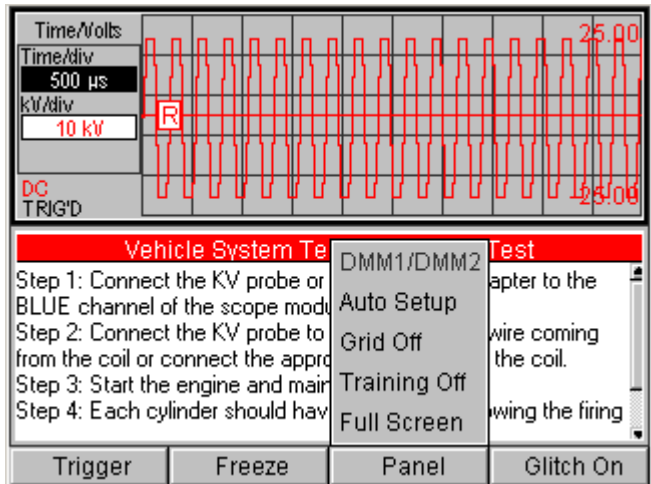
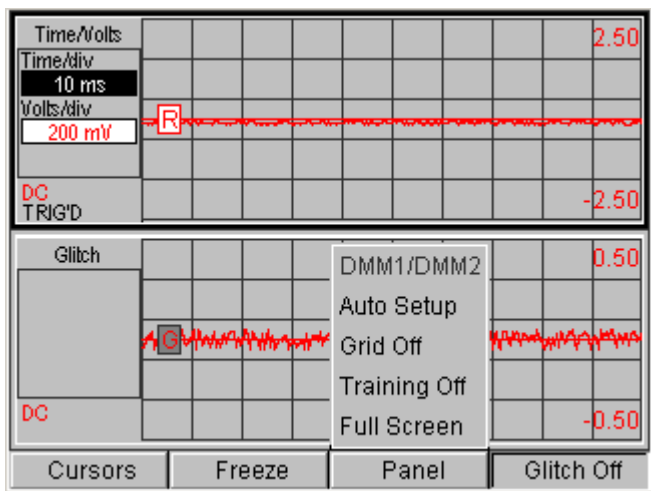
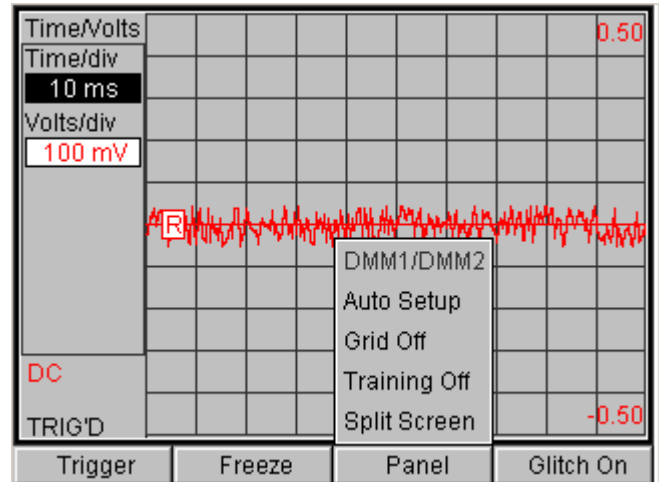

Figure 12.7: Vehicle System Tests Screen - Function Keys with Waveform in Top Panel Selected
Figure 12.8: Vehicle System Tests Screen - Function Keys with Glitch On
Figure 12.9: Vehicle System Tests Screen - Function Keys with Waveform Selected and Displayed as Full Screen
The second group of function keys [**Trigger/Cursors/Time Volts, Freeze, Panel, Glitch On/Off**] appears when the **top panel is selected and it contains the waveform display**, as shown in Figure 12.7, or when the top panel is selected and the Glitch panel is displayed in the bottom half of the screen, as shown in Figure 12.8. They also appear when you display a full screen waveform by using the Panel function key Full Screen option, as shown in Figure 12.9.
- Use **Panel, Full Screen** to change the split screen display to a full screen display as shown in Figure 12.9. With the full screen displayed, the menu option becomes Split Screen. Select the Split Screen option to return the display to a split screen (Figure 12.7).